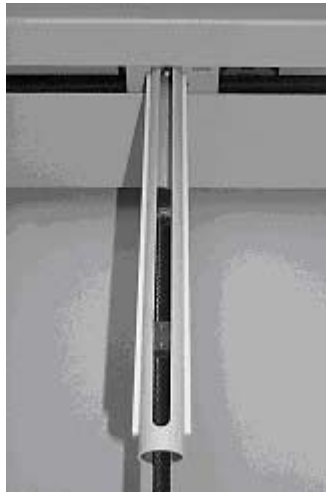

Figure 1-9. Leadscrew removal from arm tube.
8. Remove the leadscrew by pulling it straight out with needlenose pliers. See Figure 1-9.